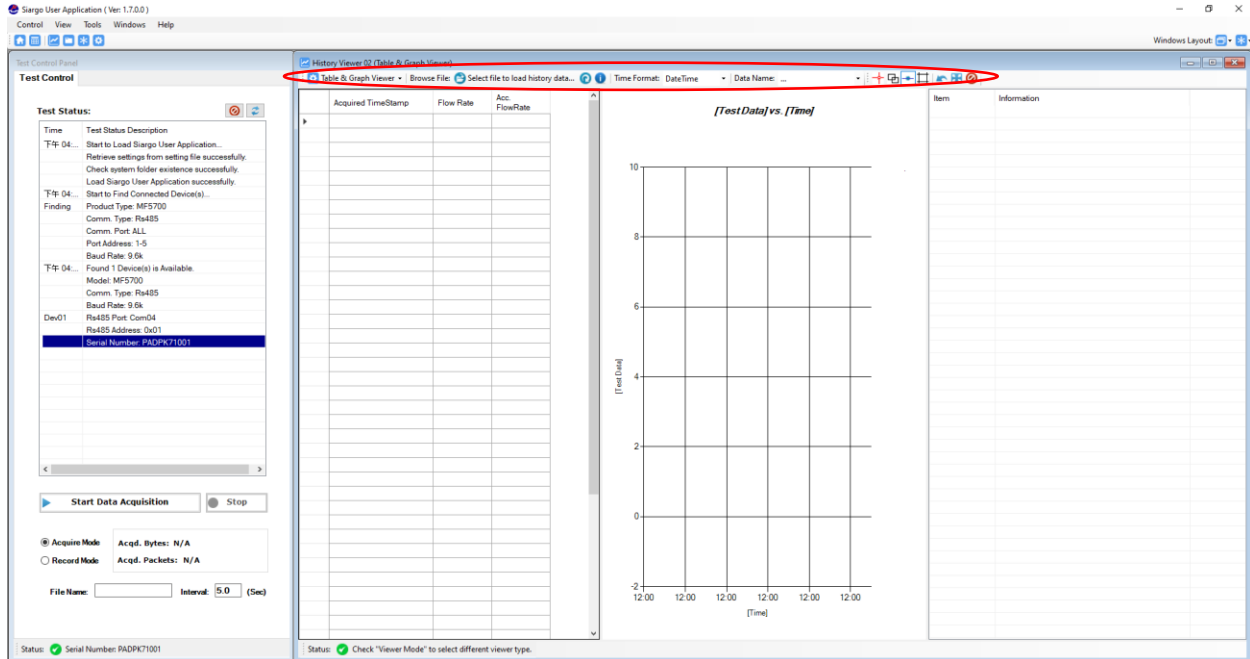

Figure 4
7. User may click “Select file to load history data” button to choose record file. (See Figure 4, 5, 6)